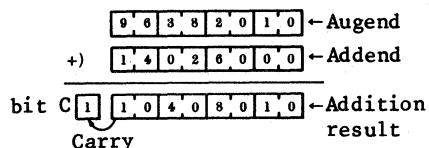

Fig. 2 Addition example when carry is generated
<p>(1) Function Details</p> <p>(a) Argument details</p> <p>ABD (RAM): Holds 8-digit BCD augend. After ADDD execution, Contains addition result.</p> <p>ACD (RAM): Holds 8-digit BCD added.</p> <p>Bit C (CCR): Indicates whether a carry is generated or not after ADDD execution.</p> <p>Bit C=1: Carry is generated in addition result.</p> <p>Bit C=0: No carry is generated in addition result.</p> <p>(See Fig. 2)</p>